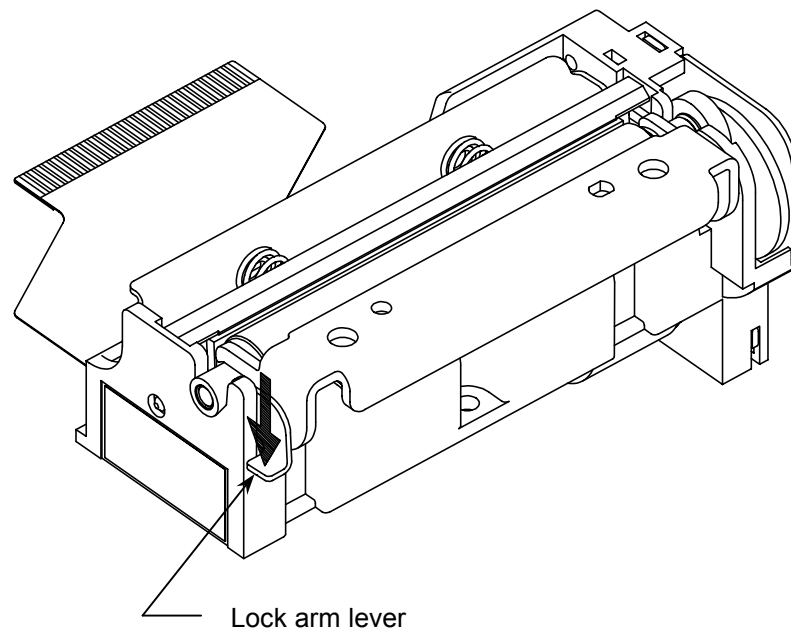

Figure 8-3 Loading Paper (1)
- Turn the lever (projection) of the lock arm in the direction of the arrow shown in **Figure 8-3**. (for LTPA245B)
- Turn the lever (projection) of the lock arm in the direction of the arrow shown in **Figure 8-3** to open the platen block. (for LTPA245C)